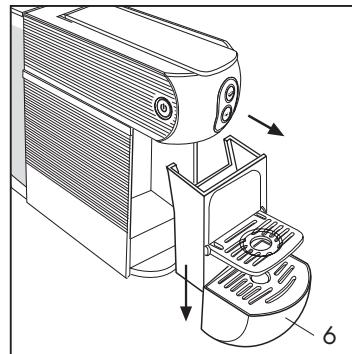

Fig. 12
To perform this operation, take out the drip tray (6) (**Fig. 12**) and separate it from the capsule container by pulling it down, paying attention to the presence of any liquid.